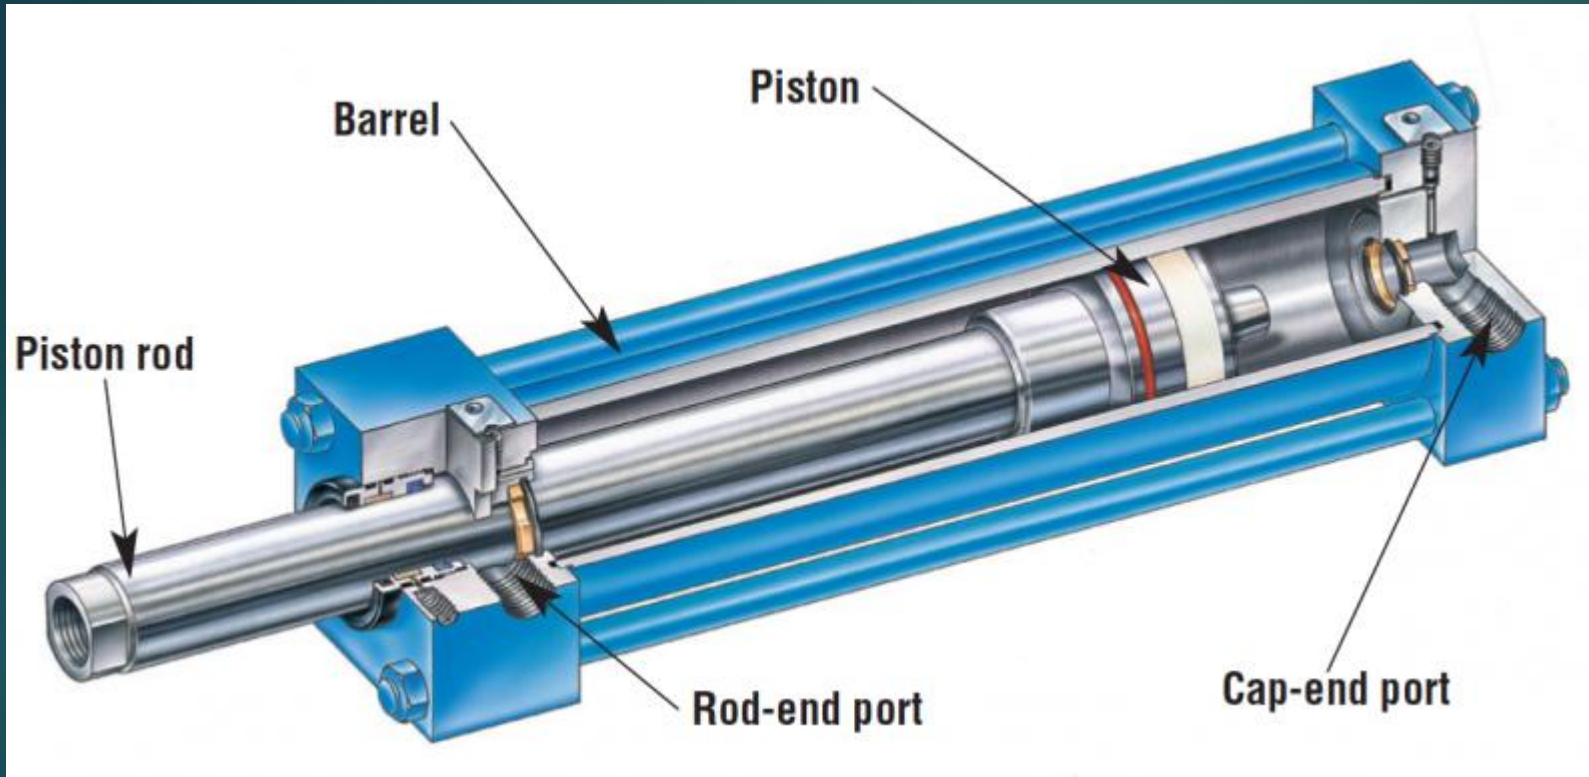

Fig. 1. Cutaway view shows key feature of a typical cylinder , in this case , a double-acting model for Hydraulic service with standart tie-rod construction.
- ▶ The most common cylinder configuration is **double acting**, Figure 1. Routing pressurized fluid into the rod end of a double-acting cylinder causes the piston rod to retract. Conversely, routing pressurized fluid into the cap end causes the rod to extend. Simultaneously, fluid on the opposite side of the piston flows back into the hydraulic reservoir. (If air is the fluid medium, it usually is vented to the atmosphere.)
- ▶ Figure 1, have square or rectangular end caps secured to each end of the barrel by rods that pass through holes in the corners of the end caps. Nuts threaded onto the end of each tie rod secure the end caps to the barrel. Static seals in the barrel/end-cap interface prevent leakage. A number of variations to this design exist, including use of more than four tie rods on a cylinder, or long bolts that thread into tapped holes in one of the end caps.